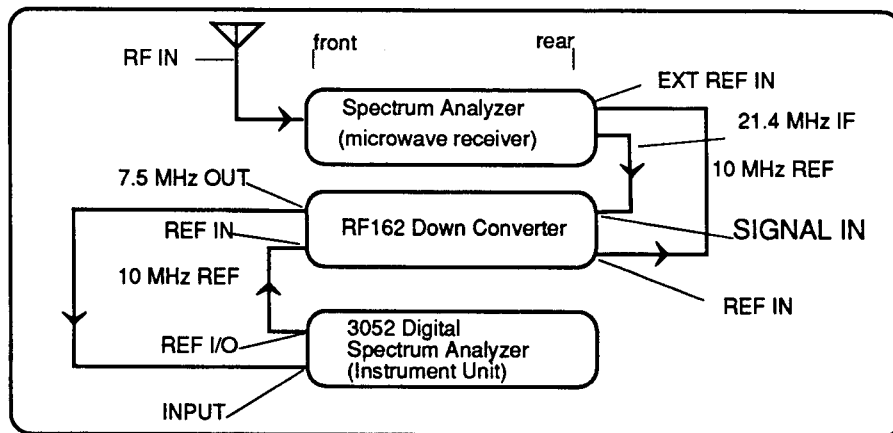
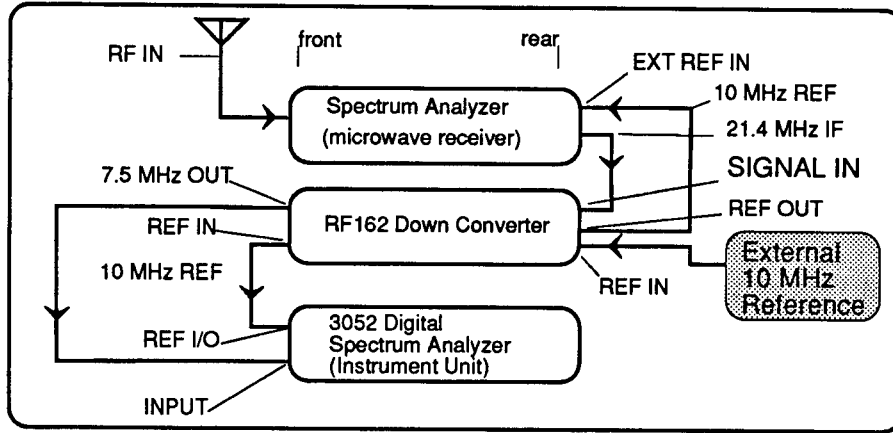

Fig. 1, System interconnections.
Fig. 2, External 10 MHz reference configuration.
- Use minimum length 50 Ω BNC cables, and make the connections shown in Figure 1.
A Frequency Reference is required for proper system and RF162 oscillator operation. The 3052 10 MHz Standard may be used as the reference. See **System Setup** and Figure 1.
To frequency lock the System to an external reference, modify the system setup shown in Figure 1 to a setup as shown in Figure 2.
Only these connections are changed from the Internal Reference setup (Figure 1).